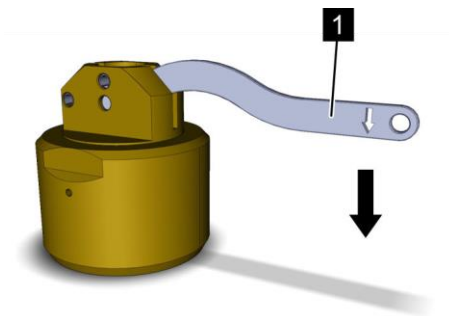

Fig. 170: Hand lever down
4. ➔ Press the hand lever (Fig. 170/1) of the manual release device downward to the stop (Fig. 170/ arrow).